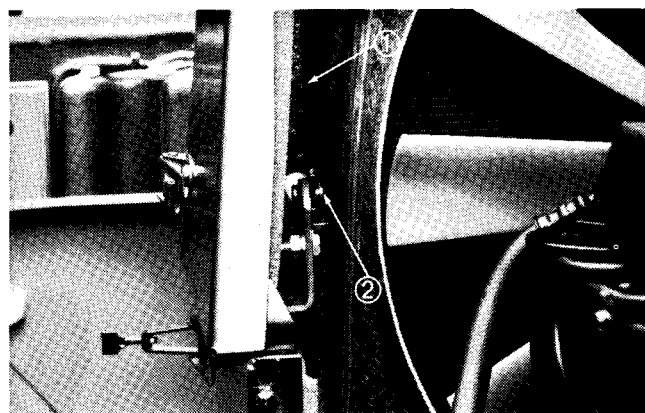

Figure 27
2. Remove E-clip from each gas spring bracket (Fig. 27). Do not remove gas spring rod end from bracket at this time.